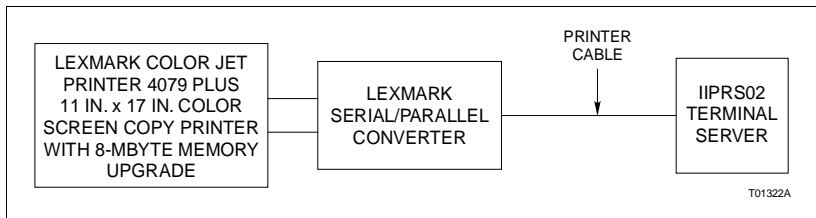

Figure PR38-1. Printer Cable Configuration
- 3. Connect the male to female serial cable from the serial/parallel converter to the printer cable (Fig. PR38-1).